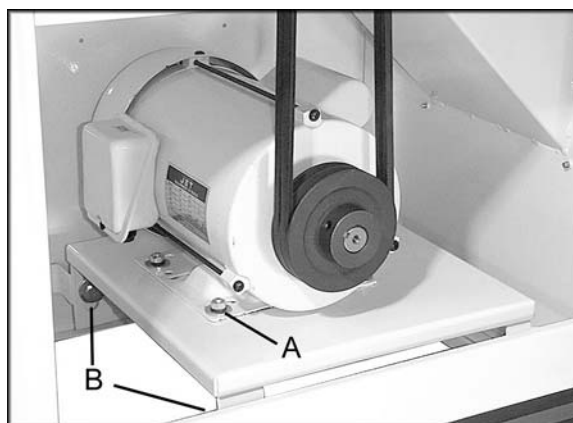

Figure 7
4. Pull v-belts down and place onto motor pulley (Fig. 7). If necessary, loosen the mounting screws (A, Fig. 7) and slightly lift motor. Re-tighten the screws when belt is placed.
5. Check to make sure that motor pulley and cutterhead pulley are vertically aligned and the v-belt does not contact the sides of the opening in the base. If the pulleys are not aligned, loosen the screws (A, Fig. 7) on the motor base and slide the motor until the belt is aligned. Re-tighten screws.
6. The v-belt is properly tensioned when finger pressure on the belt half way between the two pulleys causes 1/2" deflection. If the belt is too loose, loosen the lower screws (B, Fig. 7) on the mounting plate and push down on the plate. When belt tension is correct, re-tighten screws.